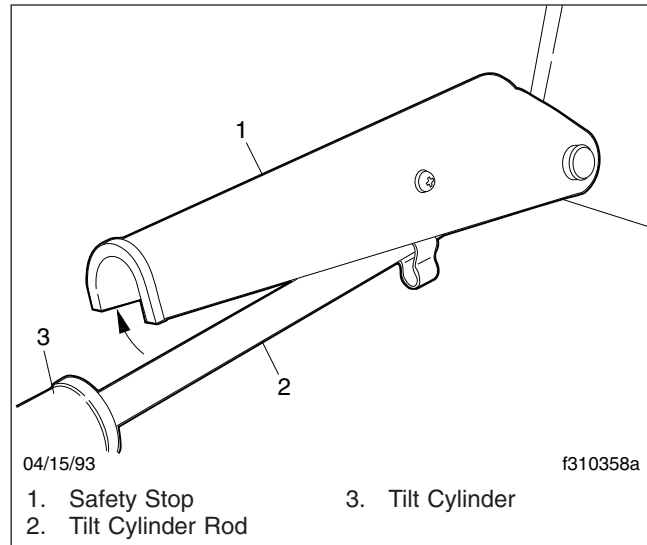

Fig. 2.16, Safety Stop Disengaged
4. Allow the cab to lower to the safety stop, then move the safety stop away from the right tilt cylinder rod. See **Fig. 2.16**.